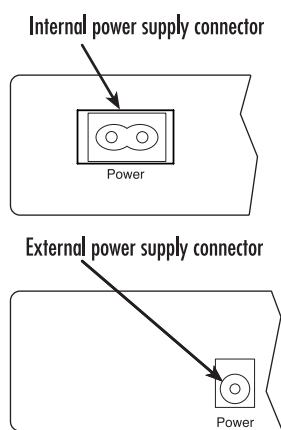

Figure 2. Power connector location on rear panel
1. Install the power cable into *Power* connector (see figure 2). The AC main socket outlet shall be within 10 feet (3 meters) of the equipment and shall be easily accessible.